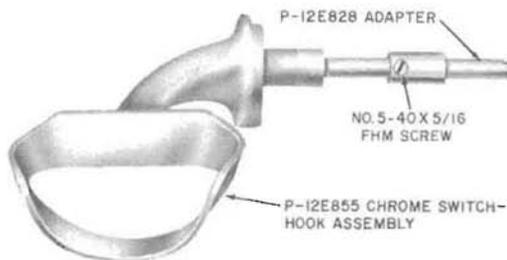

Fig. 11—Two-Piece Switchhook Assembly
- 2.32** Later models of coin collectors have 2-piece, chrome-plated P-12E855 switchhook assemblies (Fig. 11).